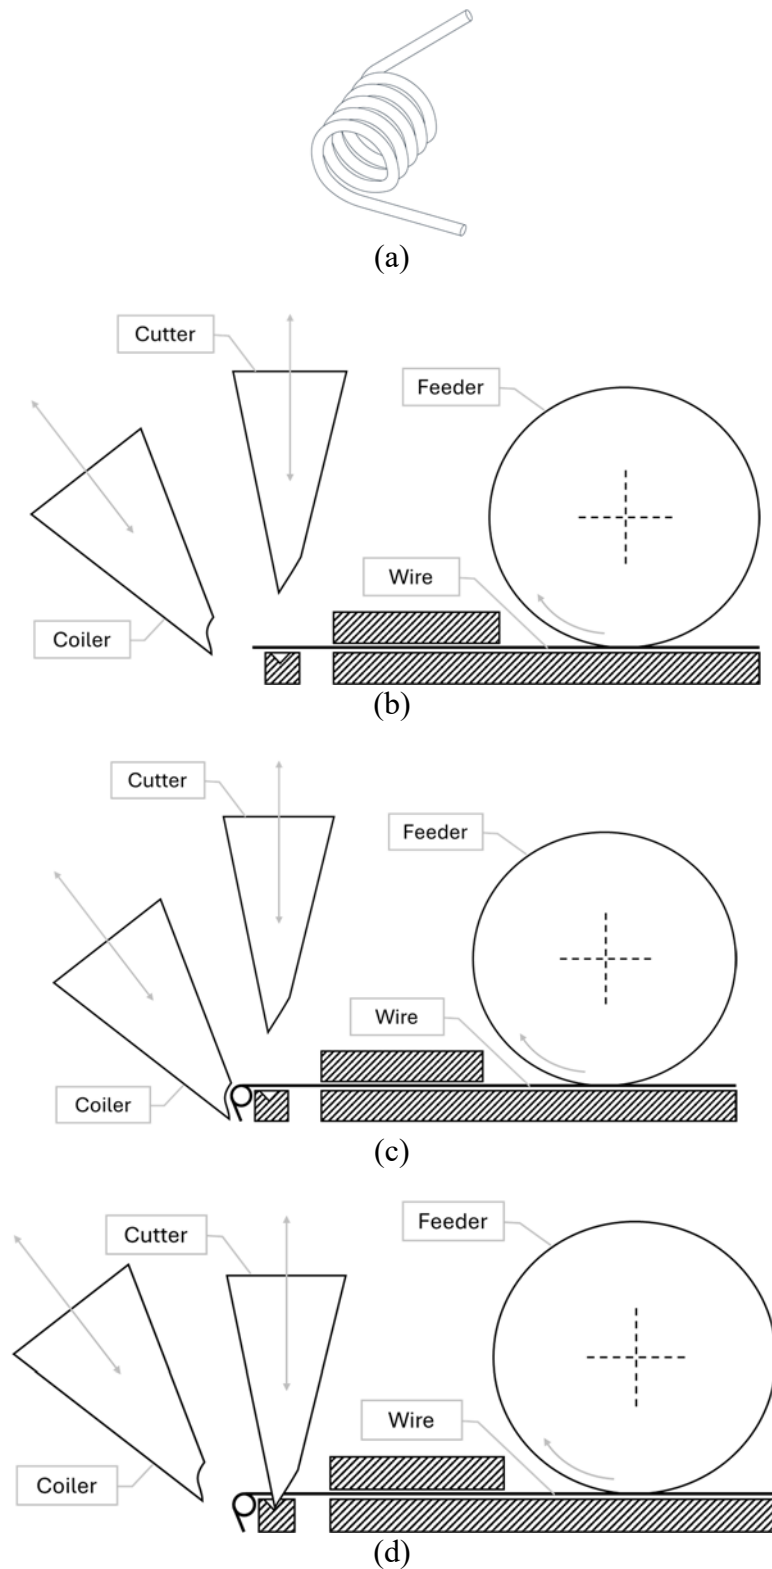

Fig 1
- (b) Consider a machine that forms torsion springs - coils with straight "legs" at the ends - as depicted in Fig 1 (a). A schematic side-on view of this machine is shown in Fig 1 (b). The machine has three motor-driven mechanisms:
- Coiler: A mechanism that extends towards the wire (as shown in Fig 1 (c)), forming the wire pushing against it into a coil;
- Cutter: A mechanism that extends towards the wire (as shown in Fig 1 (d)), cutting the wire to release the formed spring.